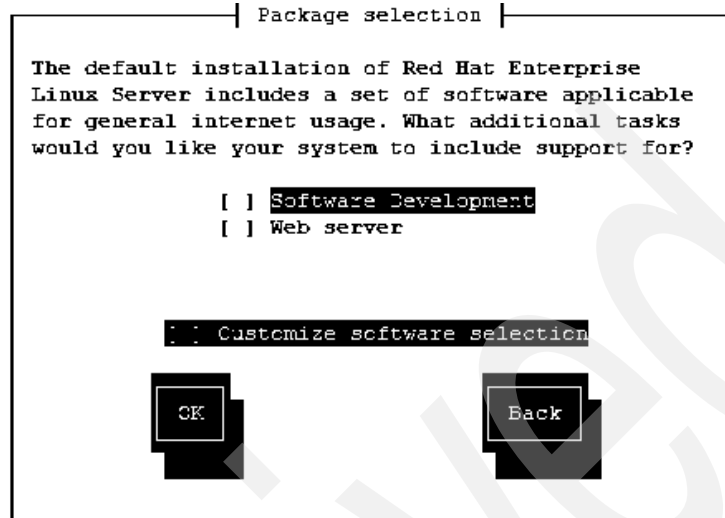

Figure 8-18 Select additional packages panel
20. Select any additional software applications with the Spacebar and select **OK** when complete, as shown in Figure 8-18.